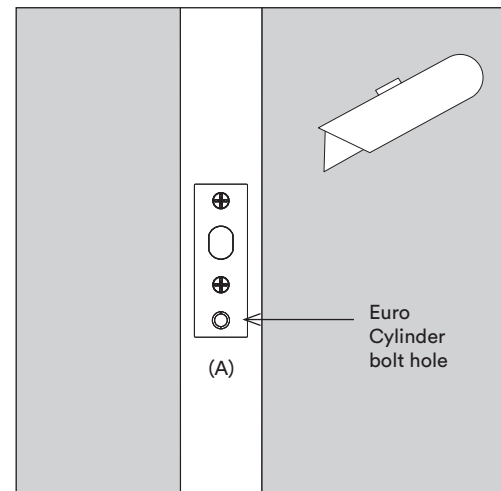

Figure 6.
10. Using a sharp knife cut around the deadbolt euro body plate (A) and mark the euro cylinder bolt hole. Remove the deadbolt euro body (A) from the door and drill the euro cylinder bolt hole with a 6mm bit to a depth of 50mm. Figure 6.